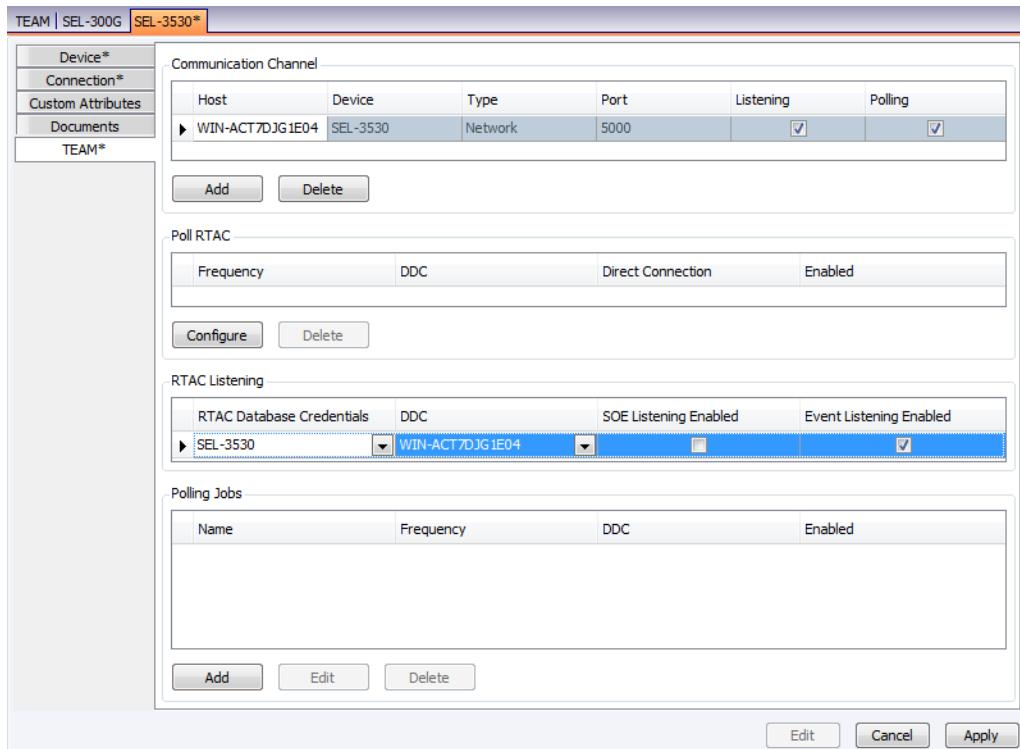

Figure 149 RTAC TEAM Tab
Step 19. Under **RTAC Listening**, change the RTAC Database Credentials by using the drop-down arrow to SEL-3530. Clear the **SOE Listening Enabled** check box. The **TEAM** tab should look similar to *Figure 149*.